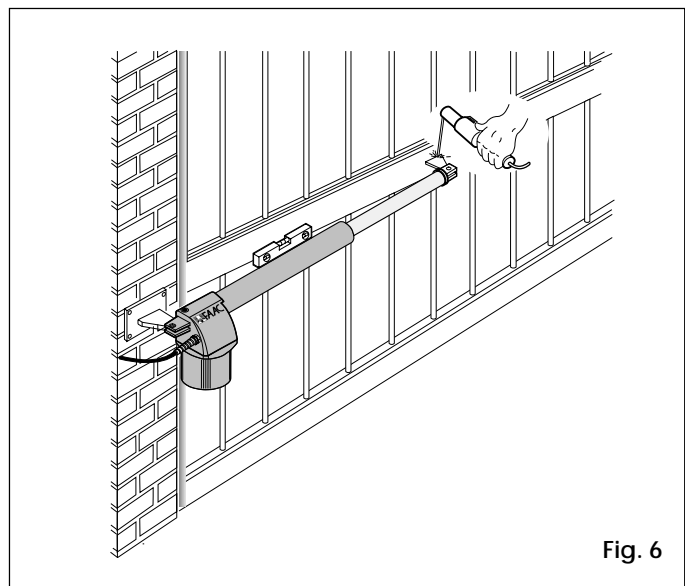

Fig. 6
- 8) Close the gate leaf and, keeping the operator perfectly horizontal, locate the front bracket securing point on the leaf (fig. 6).